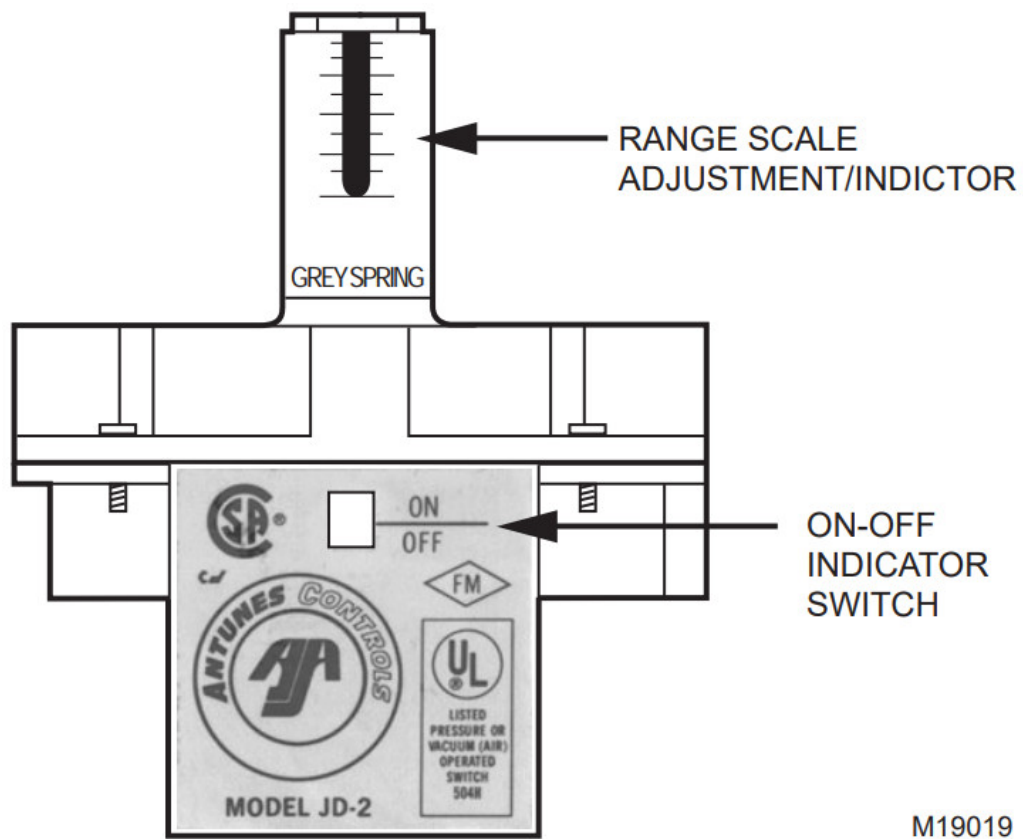

Fig. 2. Correct mounting orientation.
2. Orient it with the adjustment screw on the top as shown in Fig. 2.